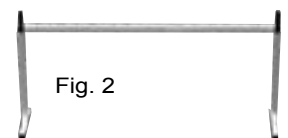

Fig. 2
Place the reservoir (A) and the stands at a sufficient distance so that you can place the growing chambers properly. (fig 2). Place the largest cover to the back of the reservoir, leaving the opening to the front.